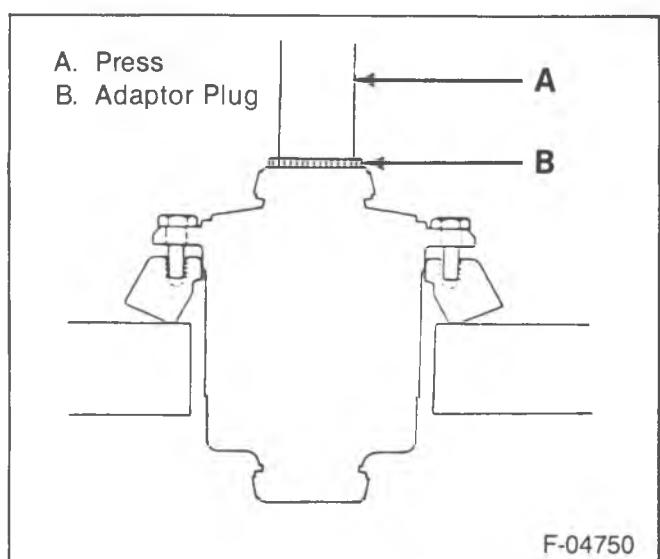

Figure 16—Installing the Ring Gear to Case
2. Differential side gears (29) and thrust washers (30) to the differential case halves in their original locations.
3. Differential spider (33) to the differential.
5. Ring gear (14) to the differential (figure 16).
6. New ring gear bolts (36).